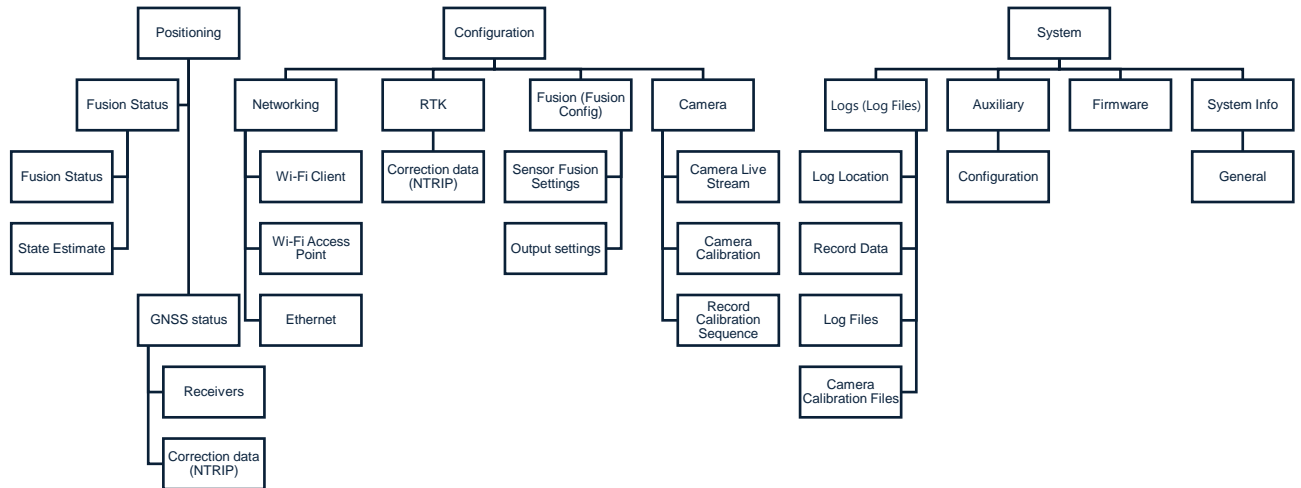

Figure 11 Embedded web interface structure
- The Vision-RTK 2 should be mounted as to maximize the number of features from static objects that appear and disappear from the scene while the platform is travelling. Its view should not be dominated by featureless scenes like the sky and obstructions that move with the platform (e.g., a car hood) should be minimized (see Figures 9-1 and 9-2). If some of the obstructions remain in the camera scene, this can be removed in the *Camera Live Stream* section (see Figure 11) using the embedded web interface.